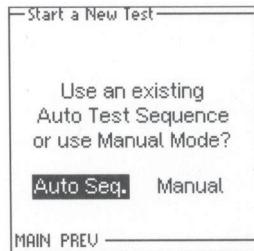

Figure 3
- [9] **CLICK** on "Auto Sequence" to select "Automatic Test Sequence" (see Figure 3).